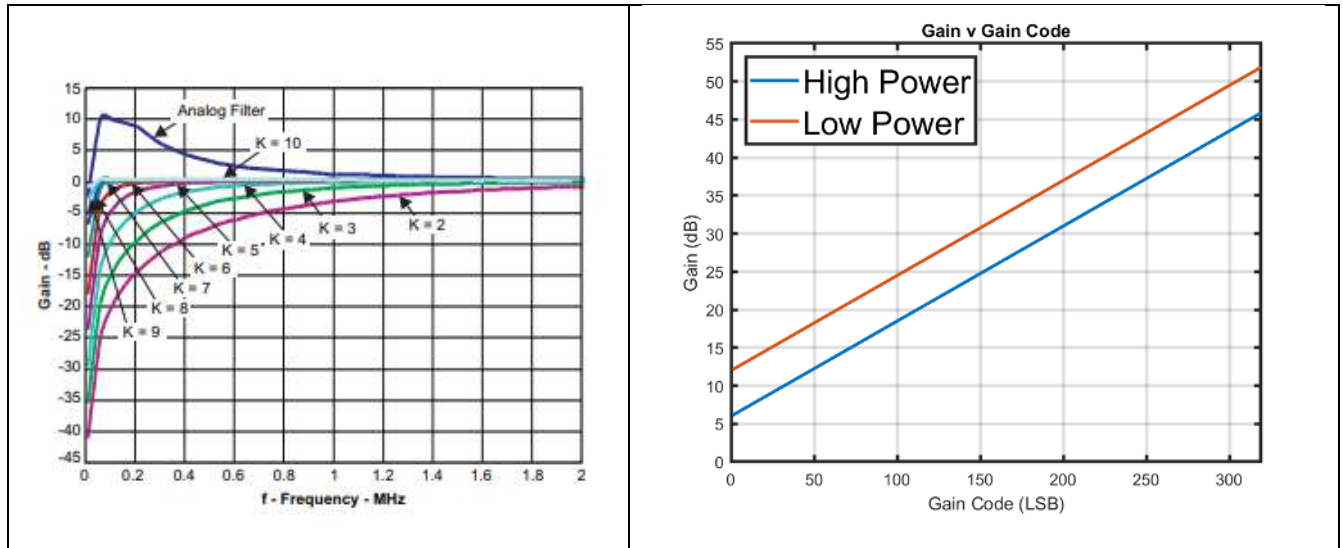

Figure 18: AFE5851 HPF Corner (Left) and DTGC gain codes (Right)
1. The main control section (1) allows the user to modify settings that directly interface with the TI AFE5832 ADC chips on the DAQ PCB.
- ADC HPF corner – switches the high pass filter options on the AFE5832 chip that is described in Figure 18. Note: Figure 18 is the HPF corner plot for the AFE5851 chip, the AFE5832 chip has very similar values for the HPF corner settings.
- DTGC gain code – outputs the DTGC gain code of the set Even/Odd DTGC gain. The gain codes are shown in Figure 18.
2. The LPF cutoff frequency module (2) sets the low-pass filter cutoff frequency of the ADC chips. A selection of four frequencies are listed with radio buttons for both even and odd channels.
3. The HPF cutoff frequency module (3) set the high-pass filter cutoff frequency of the ADC chips. A selection of two frequencies are listed with radio buttons for both even and odd channels.
4. The ADC selection section (4) allows the user to choose which ADC chips or Devices will be affected by the configured ADC Settings.